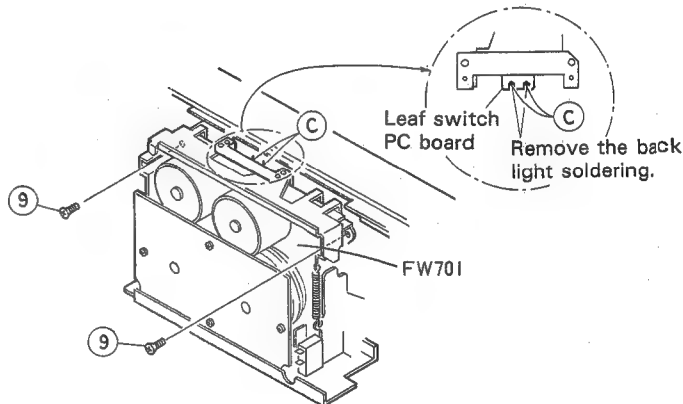

Fig. 2-4
(see Figures 2-4 and 2-5).
5. Remove the two screws (9) retaining the mechanism on the front panel assembly (see Figure 2-4).
7. Remove the cassette back light soldering (C) on the center of the upper surface of the mechanism (Figure 2-4).
5. Remove the two screws (9) retaining the mechanism assembly to the front panel assembly (see Figure 2-4).